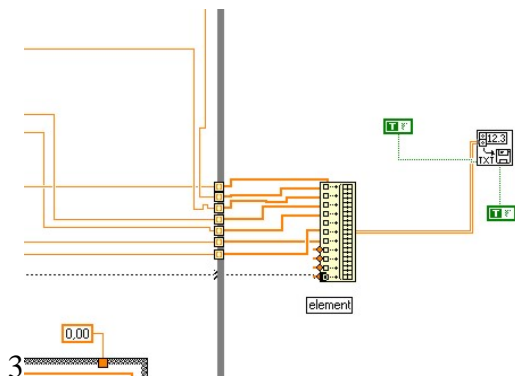

Figure 4.4 Wire the data.
3. The next stage is to locate the data you wish to store to the file. Then simply wire it to an available node on the yellow box (figure 4.4). The additional data stream will now be stored to the same file.